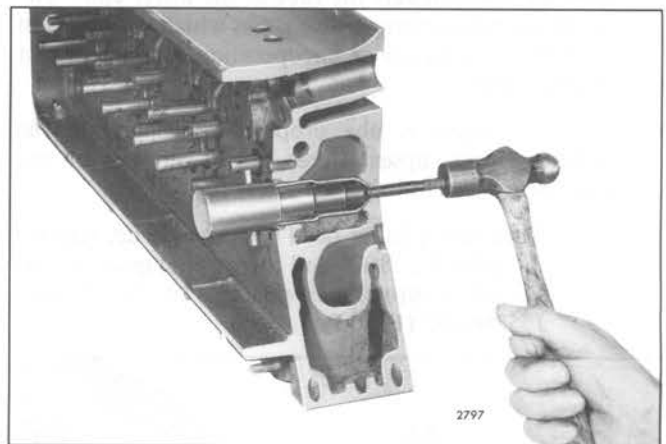

Fig. 1 – Removing Injector Tube with Tools J 5286-4C and J 5286-5
The bore in the cylinder head for the fuel injector is directly through the cylinder head water jacket (Fig. 1). To prevent coolant from contacting the injector and still maintain maximum cooling of the injector, a tube is pressed into the injector bore. This tube is sealed at the top with a neoprene ring and upset into a flare on the lower side of the cylinder head to create water-tight and gas-tight joints at the top and bottom.
2. Place the injector tube installer J 5286-4C in the injector tube. This tool or installer J 5486-20 may be used with semi-finished, service-only injector hole tubes (identified by the number "606" stamped on the top flange). Insert the pilot J 5286-5 through the small opening of the injector tube and thread the pilot into the tapped hole in the end of the installer (Fig. 1).